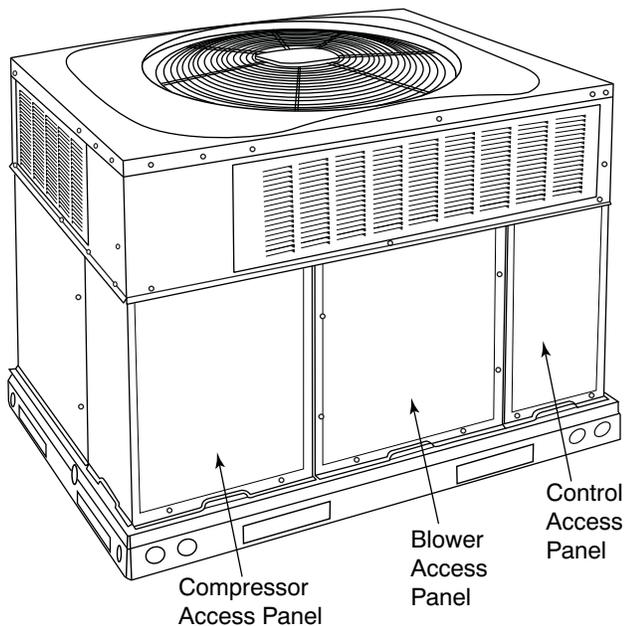

Fig. 23 - Unit Access Panels
- a. Remove blower access panel (see Fig. 23).
- g. Reinstall blower access panel (see Fig. 23).
1. Remove control access panel (See Fig. 23).
Remove blower access panel (see Fig. 23). Limit switch(es) are located on the fan partition.
3. Remove control access panel (See Fig. 23).
Remove access panels (see Fig. 23) to locate all the electrical controls and wiring. Check all electrical connections for tightness. Tighten all screw connections. If any smoky or burned connections are noticed, disassemble the connection, clean all the parts, re-strip the wire end and reassemble the connection properly and securely.